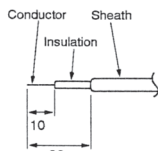
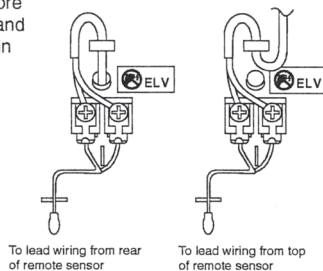

Fig.1
Fig.2
- ③ The following parts must be procured at the site.
(2) Connect the wires.
• Connect the 2-core cable to the terminal block in the lower case. Peel the sheath of the 2-core cable as shown in Fig.1, and correctly wire it as shown in Fig.2.